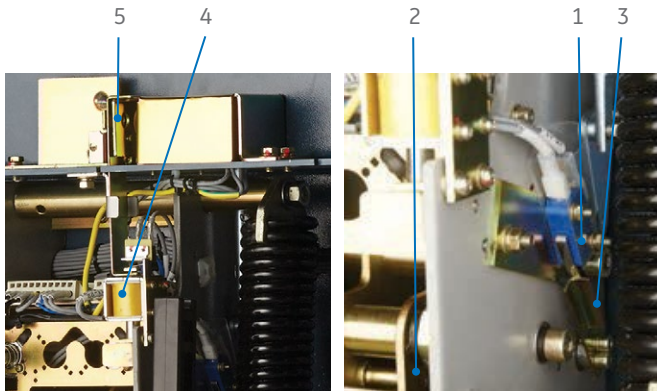

Figure 15: Circuit Breaker Trip Free Arrangement
If the mechanical tripping signal is applied and held prior to the application of a closing signal (mechanical or electrical) the limit switch shown in (Figure 15, 1) will disconnect the supply to the closing coil magnet, and the plunger of the closing coil magnet will block the closing push button, preventing closure of the breaker mechanically. At the same time, the plunger will de-activate the micro switch (Figure 15, 4) whose N/O contact is connected in series with the closing coil, which will not allow the breaker to close electrically.
When no voltage is applied to the closing coil magnet, the circuit the breaker cannot be manually closed, unless the bypass lever, item 5 shown on Figure 15 (front cover removed for clarity purposes), is manually lifted upwards, which allows the CLOSE button to be actuated.